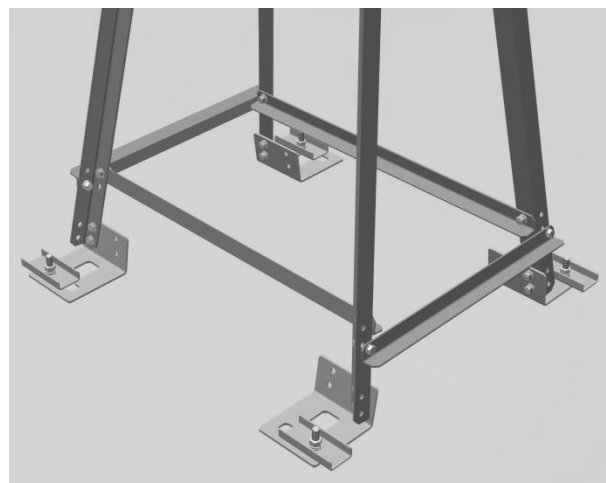

Figure 40
- 729...909 x 862...900 mm (Figure 40).